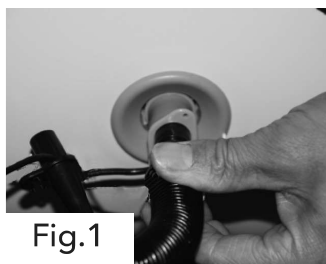

Fig.1
2. Inflate the hull. The ideal pressure is 0.16bar - 0.25bar. (Fig. 1)